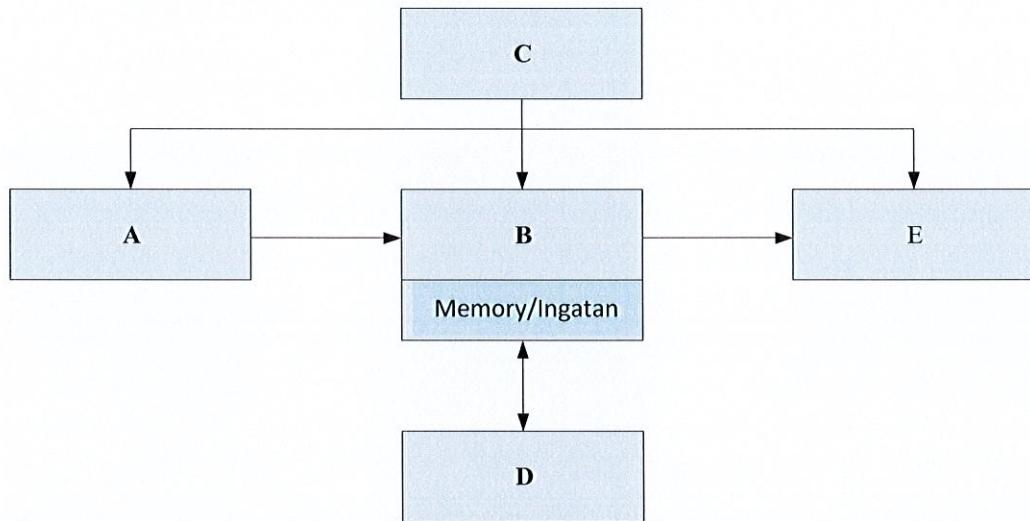

Figure A3(b)/Rajah A3(b)
- (b) By referring to Figure A3(b) below, fill in the part mark A, B, C, D, and E to complete the PLC building structure.